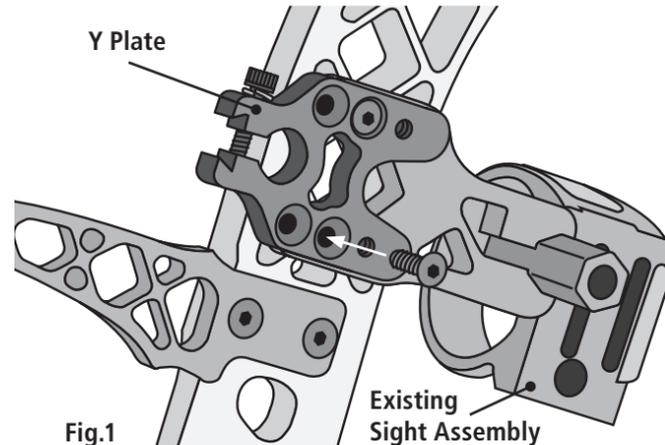

Fig.1
1) Attach the Y Plate to your bow's riser or directly to your sight with the notched jaw facing the bow string, securing it with the included #10-25 flathead screws using a torque value of 35 inch pounds. (Fig.1) Your quiver can be attached to the Y plate in the same manner as it would attach to a sight.